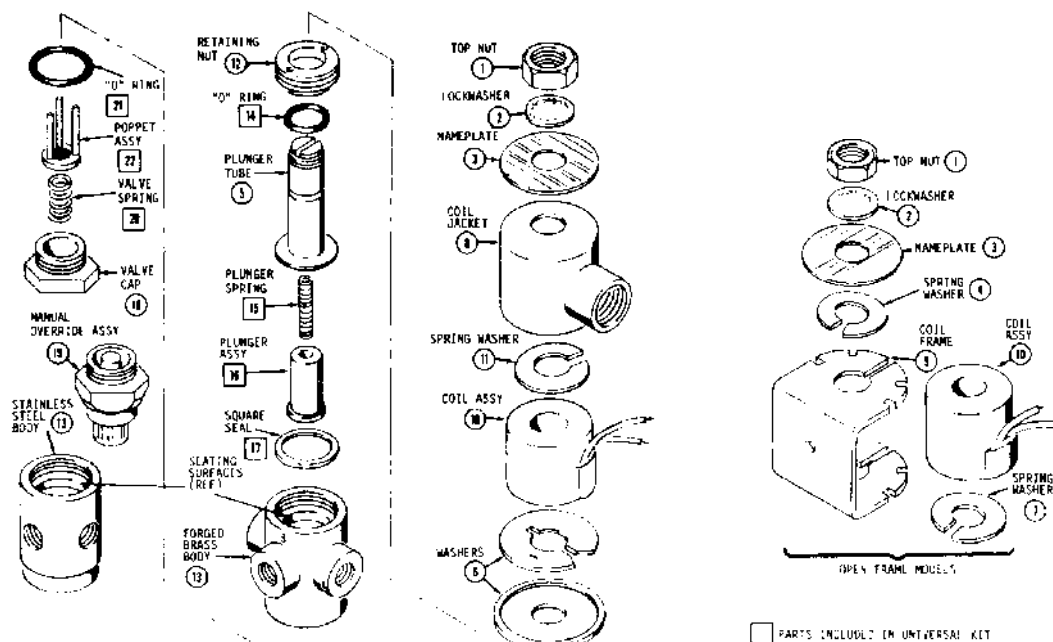

Fig 2 Exploded View of Typical S333 Standard and Open Frame Models
#### Standard and Open Frame Model (See Fig. 2)
1. Unscrew top nut (1), remove with lockwasher (2), nameplate (3) and, in addition, spring washer (4) for Open Frame solenoid model from plunger tube (5).
2. Lift off solenoid assembly intact with washers (6) (Standard Model) or spring washer (7) (Open Frame Solenoid assembly) from plunger tube (5).
3. Remove coil jacket (8) or coil frame (9) (in the case of Open Frame solenoid model) from coil assembly (10) and washer (11) (used only in standard model).
4. Use GC solenoid wrench No. 63591A to remove plunger tube retaining nut (12) from valve body (13).
5. Carefully hold plunger tube (5) in position when removing plunger tube retaining nut (12) to prevent loss of internal parts. Do not nick, dent or damage plunger tube (5).
6. Lift off plunger tube (5) and remove "O" ring (14), plunger spring (15), plunger assembly (16) and square seal (17).
7. Unscrew valve cap (18) or manual override assembly (19) in the case of valve with manual override construction, and remove valve spring (20), "O" ring (21) and poppet assembly (22).
8. Check "O" rings (14) and (21), plunger and valve springs (15) and (20), square seal (17), and seating surfaces (Ref.) for damage and wear. Replace damaged or worn out parts.
9. Reassemble in reverse order of disassembly paying careful attention to exploded view provided in Fig. 2.